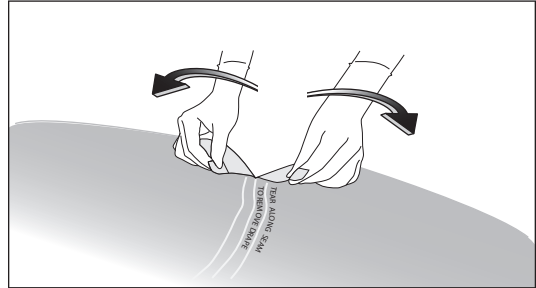

Figure 22
- Removal procedure: Tear along seam (refer to Figure 22).